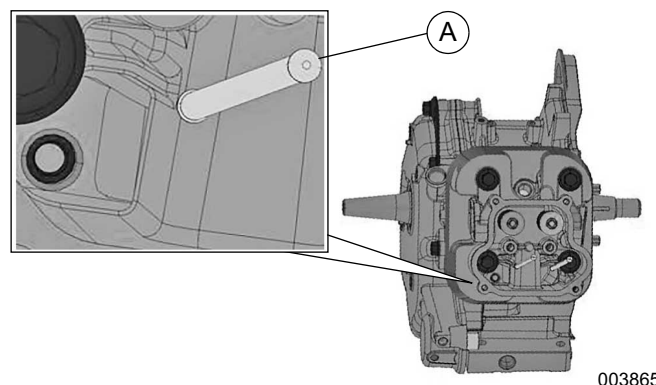

Figure 14-44. Install Pushrods
1. See Figure 14-44. Apply assembly lube to each end of both pushrods (A). Insert pushrods into tappet recess on intake and exhaust side. Verify pushrods are completely seated in tappet recesses.